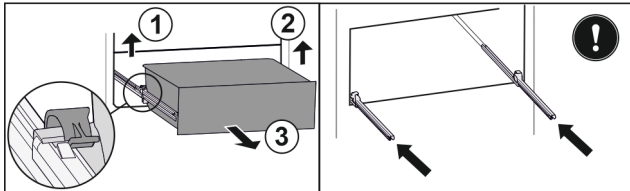

Fig. 138
- Lift left clamp and simultaneously pull drawer forwards on the left. Fig. 138 (1)
- Lift right clamp and simultaneously pull drawer forwards on the right. Fig. 138 (2)
- Remove drawer to the front. Fig. 138 (3)